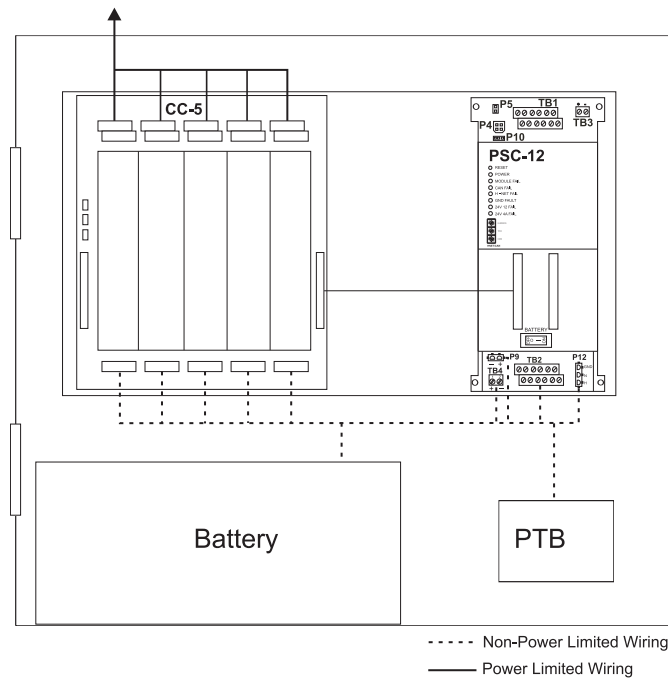

Figure 6
The PSC-12 has removable terminal blocks and connectors at the top and bottom of the module. The terminals and connectors at the top of the PSC-12 are power limited. The terminals and connectors at the bottom of the PSC-12 are non-power limited. (Refer to Figure 6.)
1. Using the 12 in. long wire assembly, connect the two batteries together, as shown in Figure 6. Secure each end of the assembly to the battery with a 10-32 x 3/4" screw and lock nut.